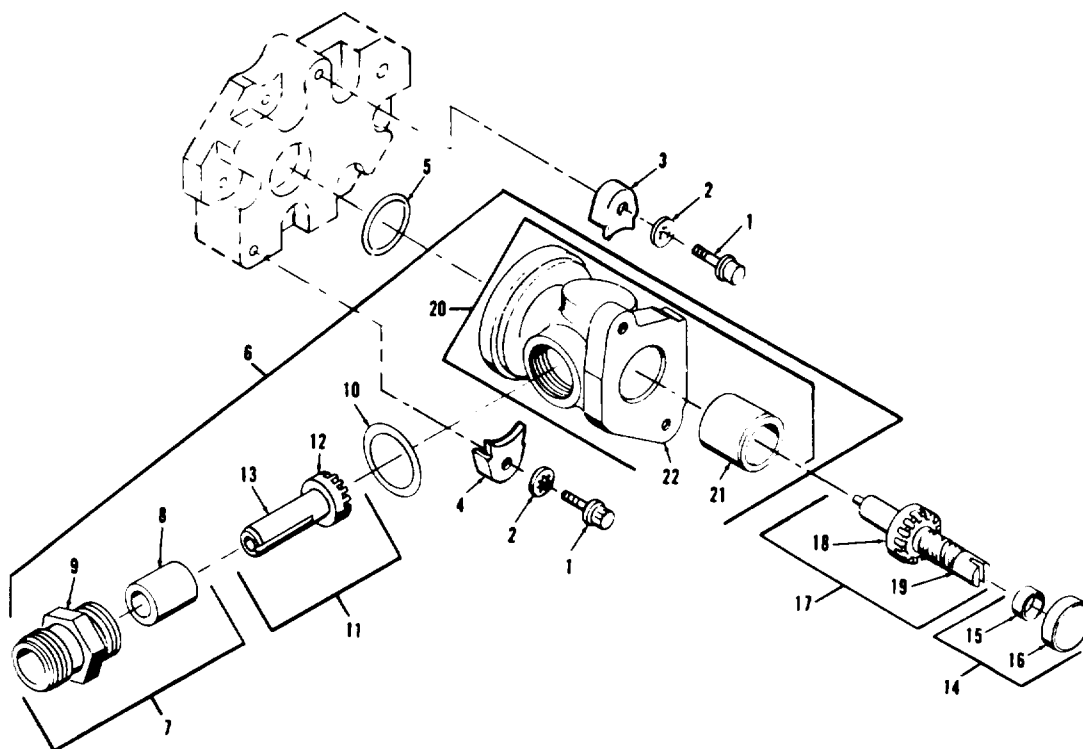

Figure 8-14. Tachometer drive group, exploded view
b. Refer to figure 8-14 and remove tachometer drive group by removing bolts (1), lockwashers (2) and clamps (3 and 4).
Refer to figure 8-14 and disassemble tachometer drive group in the order of index numbers assigned. Pay particular attention to the following.
Refer to figure 8-14, and reassemble tachometer drive group in the reverse order of index numbers assigned. Pay particular attention to the following:
Legend to figure 8-14:
a. Refer to figure 8-14 and install tachometer drive group, secure with bolts (1), lockwashers (2) and clamps (3 and 4). Torque bolts (1) from 6 to 10 foot pounds.